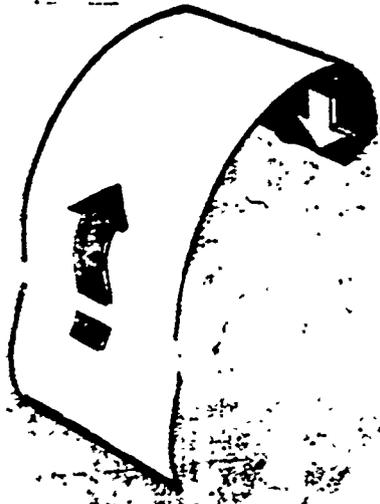

Figure 3-5. Loading the camera.
(5) Turn the film transport crank until the long slot in the spool is uppermost.
(6) Place a roll of film in the feed spool chamber at the other end of the camera. The tapered end of the backing paper should point in the direction of the takeup spool, with the paper coming off of the top of the spool. Pull out the supply spool release knob to allow the spool to drop into place and then let it snap back into place.
(7) Remove the tape seal from the roll film. Thread the beginning of the backing paper between the rollers of the film feeder mechanism as shown in figure 3-5.
(8) Using the crank for correct positioning, push the paper leader into the long slot of the takeup spool.
(9) While backing the full spool with the thumb, tighten the backing paper by one-half turn of the crank.
(10) Press the camera back with the palm of the hand to close, fold down the back lock lever, and secure with lock clip.
(11) Turn the crank handle clockwise for 4 or 5 turns until a definite stop is reached. The frame counter now turns automatically to number 1.
(12) Reverse the crank until it stops again and turn it over on its hinge to store.